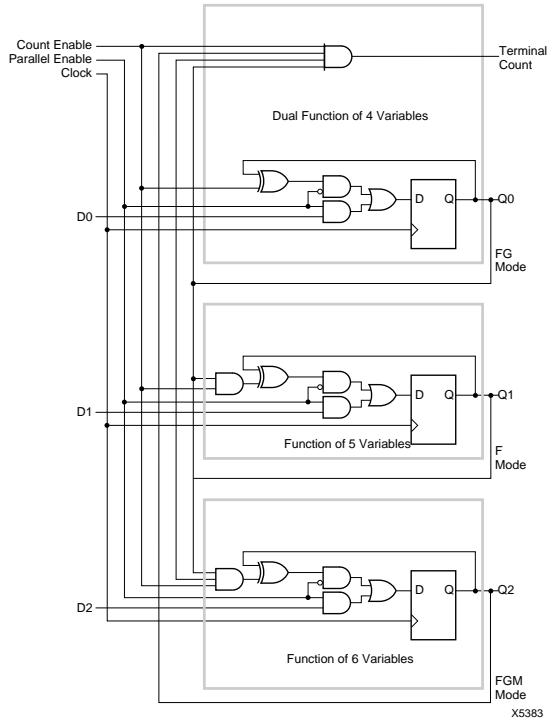

Figure 7: Counter.
The combinatorial-logic portion of the CLB uses a 32 by 1 look-up table to implement Boolean functions. Variables selected from the five logic inputs and two internal block flip-flops are used as table address inputs. The combinatorial propagation delay through the network is independent of the logic function generated and is spike free for single input variable changes. This technique can generate two independent logic functions of up to four variables each as shown in Figure 6a, or a single function of five variables as shown in Figure 6b, or some functions of seven variables as shown in Figure 6c. Figure 7 shows a modulo-8 binary counter with parallel enable. It uses one CLB of each type. The partial functions of six or seven variables are implemented using the input variable (E) to dynamically select between two functions of four different variables. For the two functions of four variables each, the independent results (F and G) may be used as data inputs to either flip-flop or either logic block output. For the single function of five variables and merged functions of six or seven variables, the F and G outputs are identical. Symmetry of the F and G functions and the flip-flops allows the interchange of CLB outputs to optimize routing efficiencies of the networks interconnecting the CLBs and IOBs.